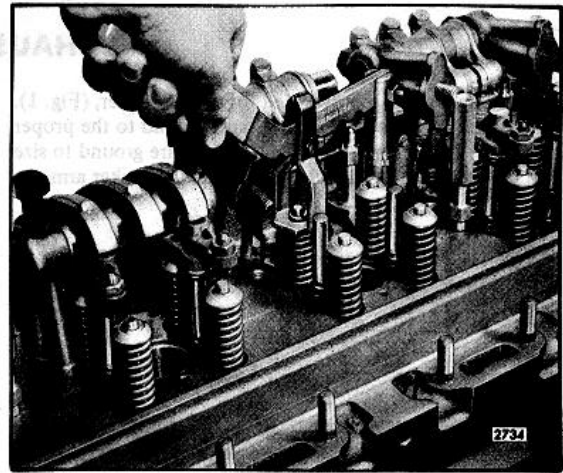

Fig. 3. Removing Exhaust Valve Spring (Four-Valve Head Shown) using Tool J 7455
6. Thread the valve spring compressor adaptor J 74557 into one of the rocker arm bracket bolt holes in the cylinder head (Fig. 3). Then compress the valve spring and remove the two-piece tapered valve lock.